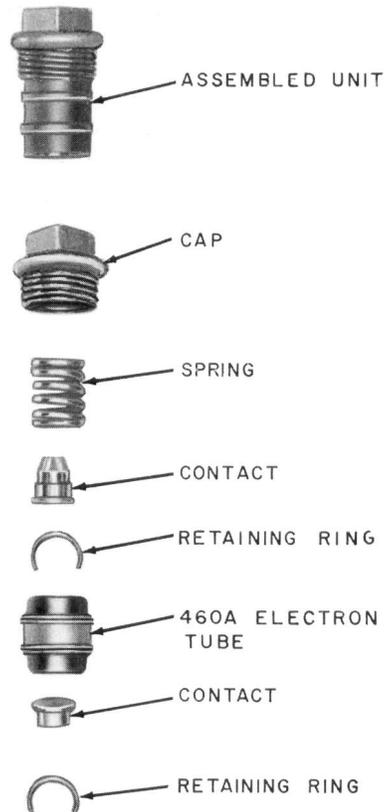
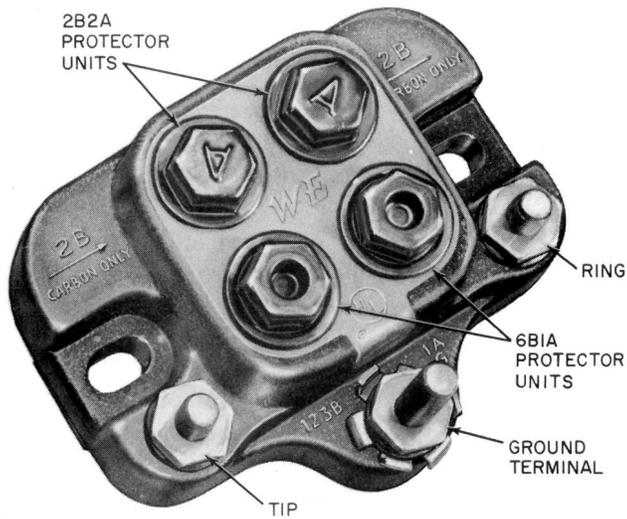

Fig. 4—6B1A Protector Unit
Fig. 3—123B1A Protector
3.04 The **123B1A protector** (Fig. 3) provides protection for one pair of wires and is recommended for use only at stations served by aerial wire (as described in paragraph 3.08). It consists of a nonconductive base containing three binding posts and two 6B1A gas tube protector units (Fig. 4) in parallel with two 2B2A protector units. The 6B1A protector units are not grounded permanently by lightning surges but may be damaged by power currents. Therefore, carbon protector backup is provided to assure fail-safe protection.